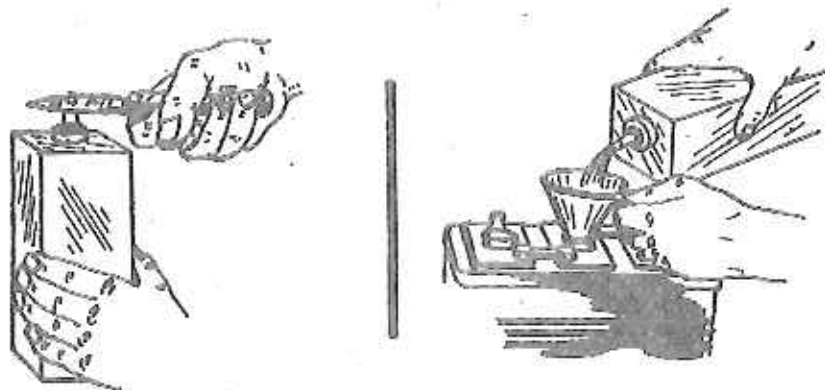

Fig. 2
3. DO NOT REMOVE BOTTLE FROM POURING SLEEVE. CUT THE TIP OFF AT THE SCORE LINE AS SHOWN IN FIGURE 2. DO NOT CUT BELOW THE SCORE LINE AS A LARGE OPENING WILL CAUSE ACID TO POUR TOO FAST AND SPLASHING WILL RESULT.